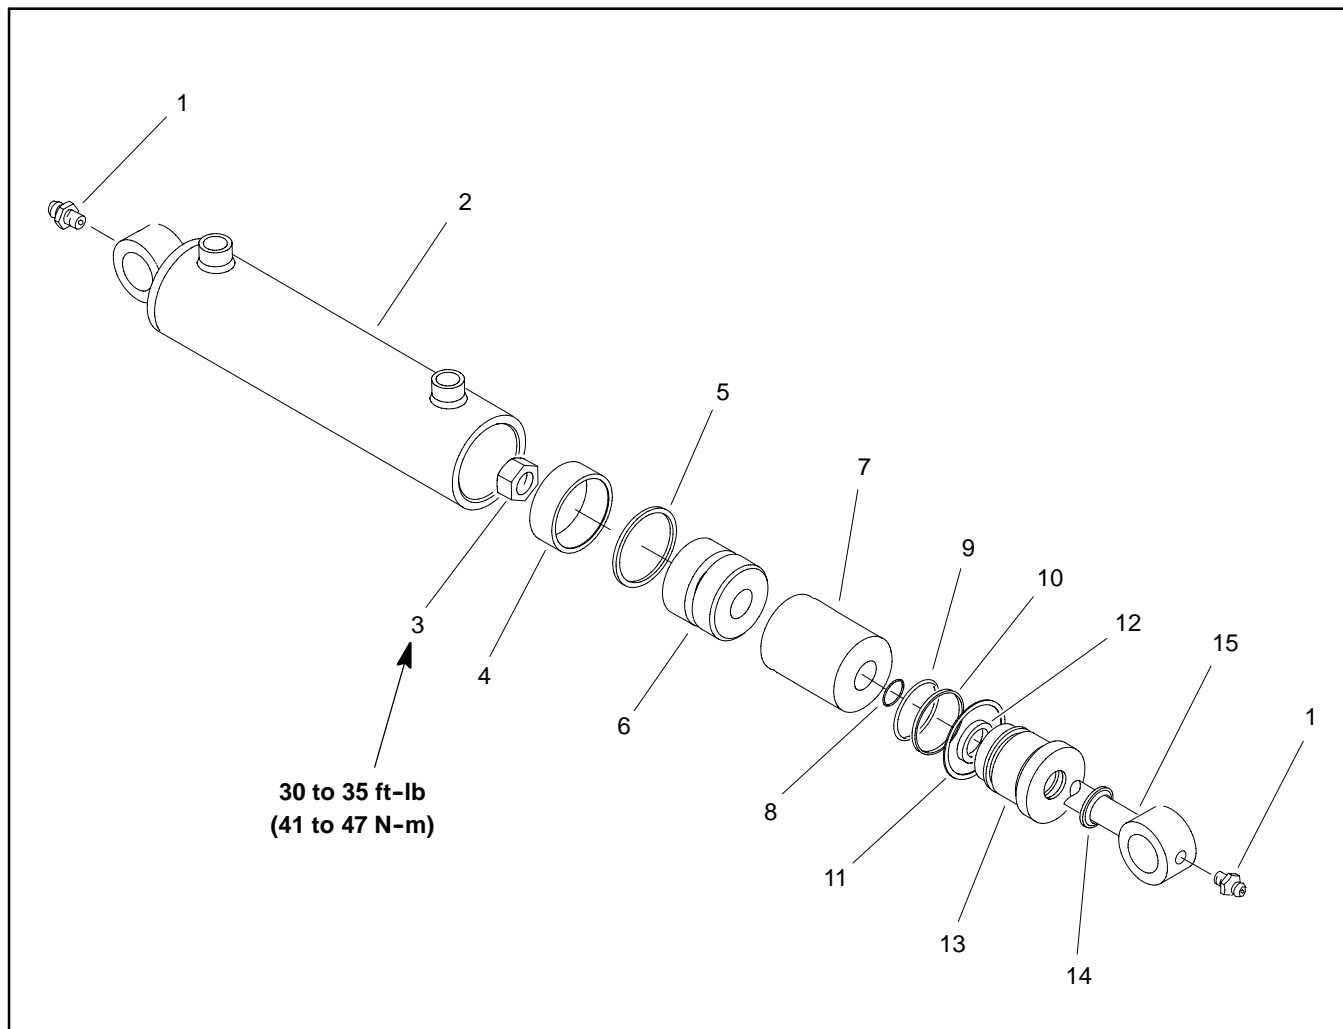

Figure 25
**Disassembly (Fig. 25)**
**Assembly (Fig. 25)**